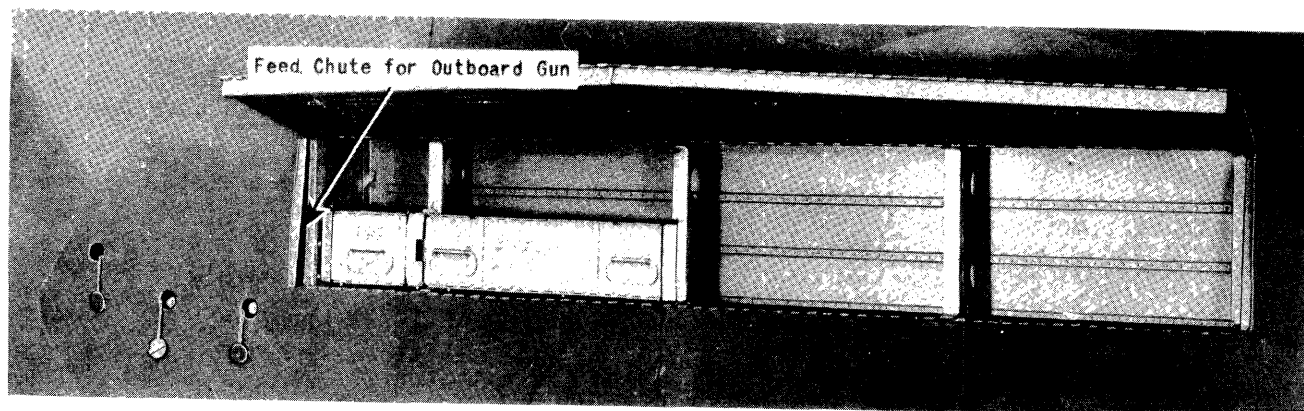

Figure 36 - Plan View - Two Inboard Ammunition Boxes Installed
a. General. (See figures 36, 37, and 38.) - The ammunition box installation consists of two single and two double stainless steel boxes in each wing panel. The normal capacity is 235 rounds per gun. The two